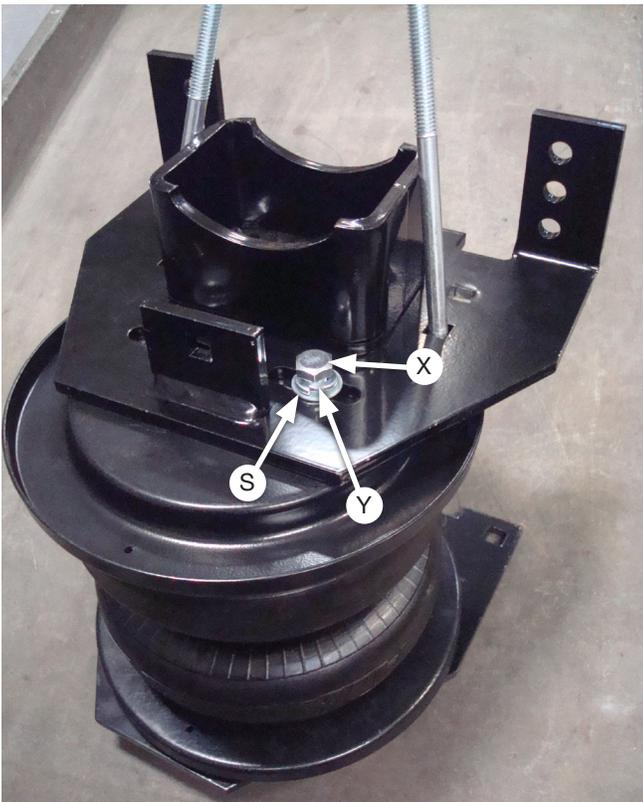

Fig. 13
7. Set the lower bracket main plate assemblies onto the air springs with the roll plates installed. Attach with 3/8"-24 X 3/4" hex bolt (X), 3/8" lock washers (Y), and 3/8" flat washers (S) (Fig. 13). Push the lower bracket as far forward as possible. Torque the hardware to no more than 20 lb.-ft. (27Nm). Refer to Figures 13 and 14.